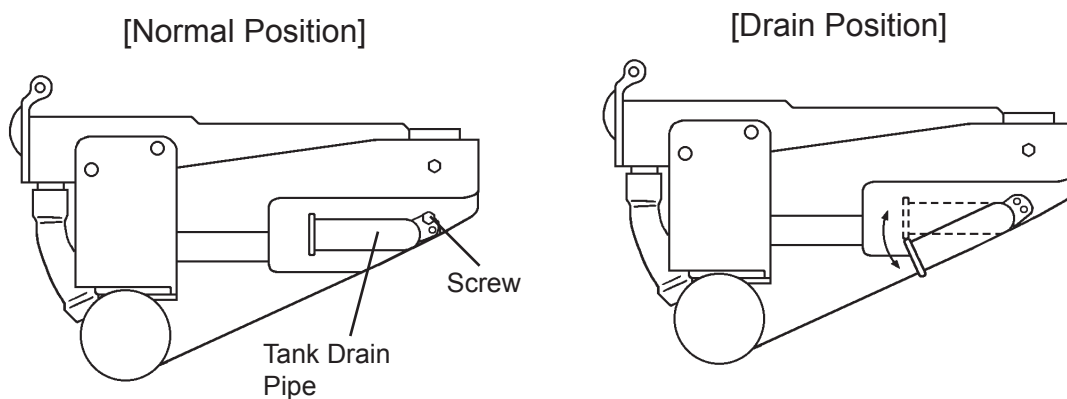

Fig. 1
4) Move the tank drain pipe to the drain position. See Fig. 1.